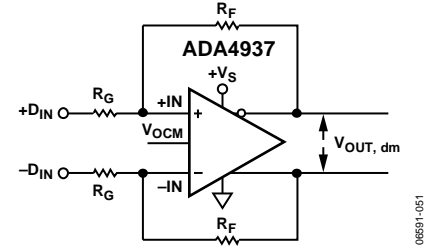

Figure 54. ADA4937-x Configured for Balanced (Differential) Inputs
The effective input impedance of a circuit depends on whether the amplifier is being driven by a single-ended or differential signal source. For balanced differential input signals, as shown in Figure 54, the input impedance ( $R_{IN, dm}$ ) between the inputs (+DIN and -DIN) is simply  $R_{IN, dm} = 2 \times R_G$ .
**Table 10. Differential Ground-Referenced Input, DC-Coupled, 1 k $\Omega$  Load; See Figure 54**